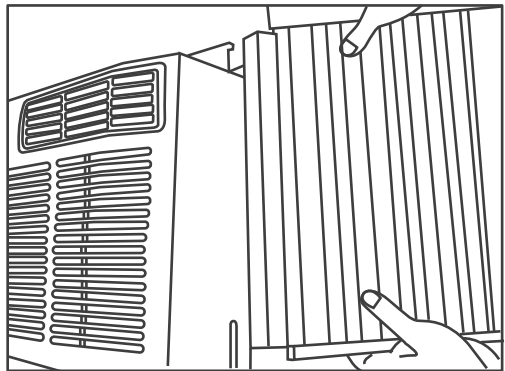

Fig.3
- Slide the free end of the panel into the cabinet as shown in Fig.3. Slide the panel down. Be sure to leave enough space to slip the top and bottom of the frame into the rails on the cabinet.